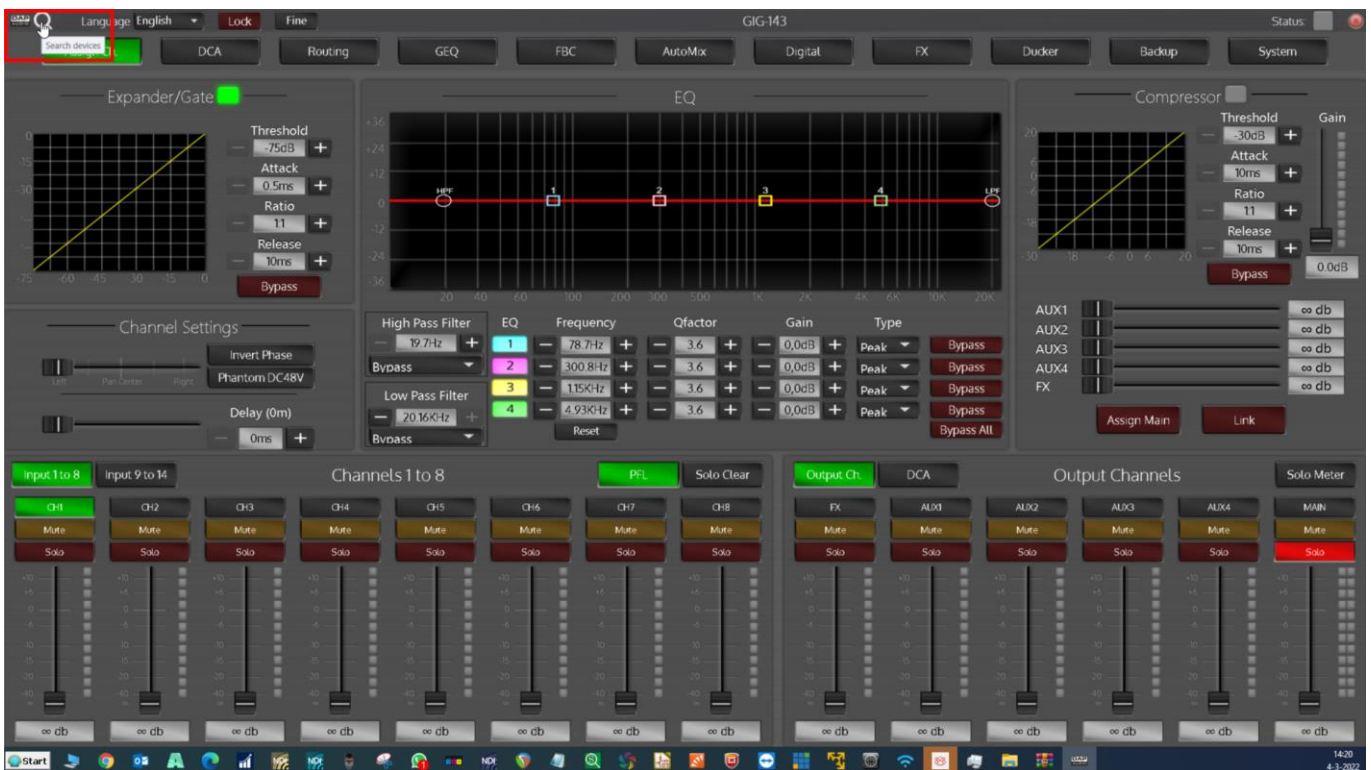

Fig. 07
- 01) Press the magnifying glass in the top left-hand corner of the screen (see Fig. 07).